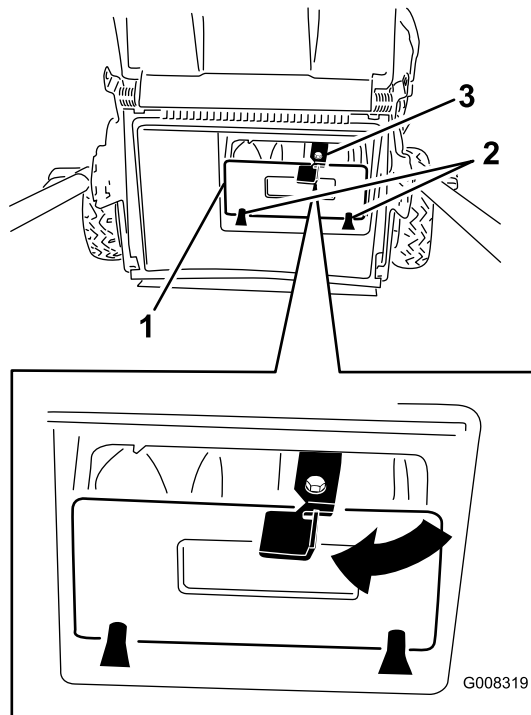

Figure 27
5. Rotate the lever lock clockwise into the locked position (Figure 27).